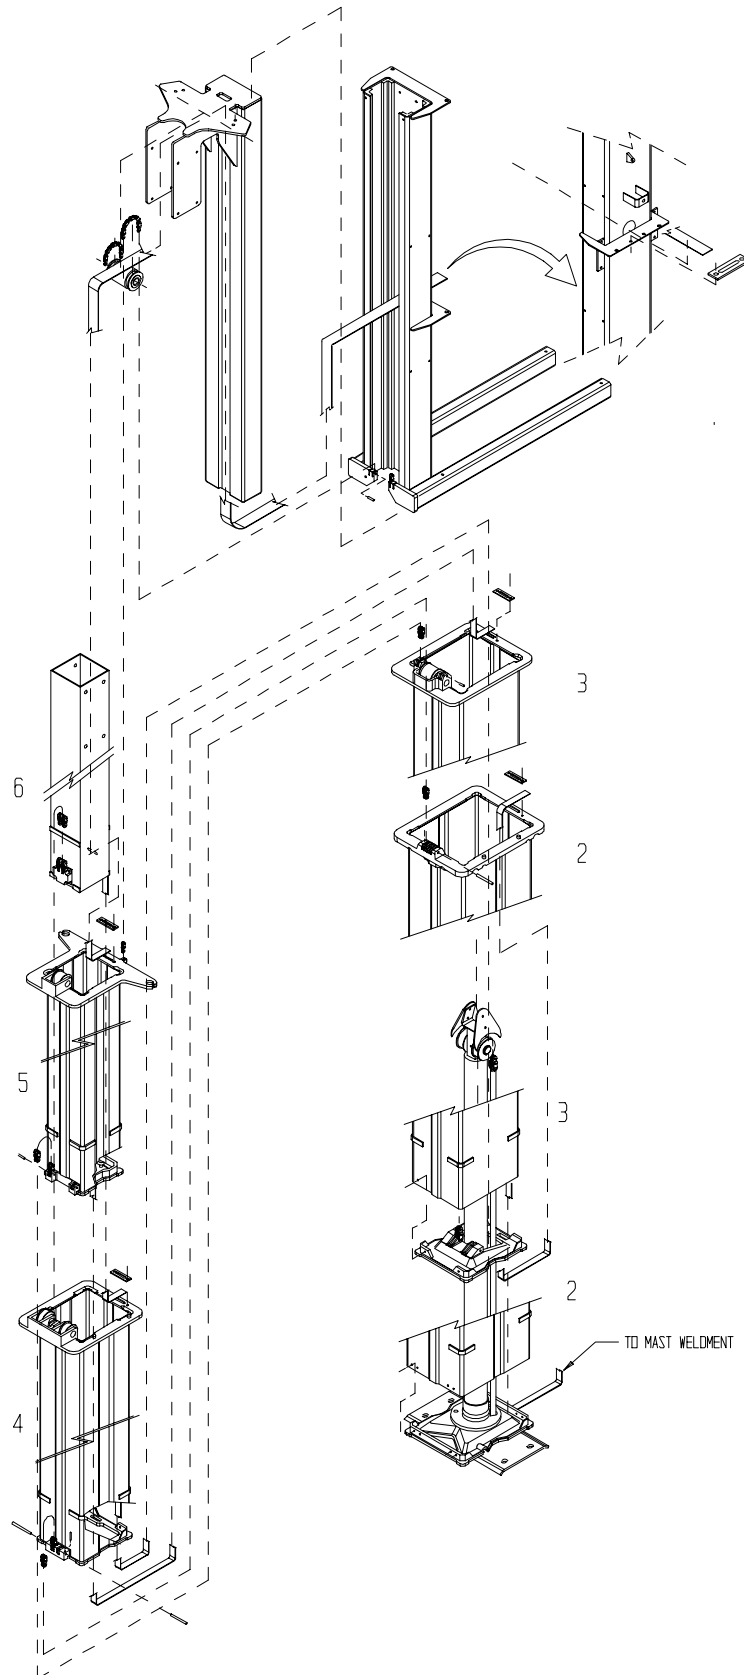

Figure 2-6: Mast Assembly, Strap and Chain Detail
2.5 Mast Assembly (Figure 2-6,2-7) Disassembly
Platform Assembly Removal (Figure 2-6)